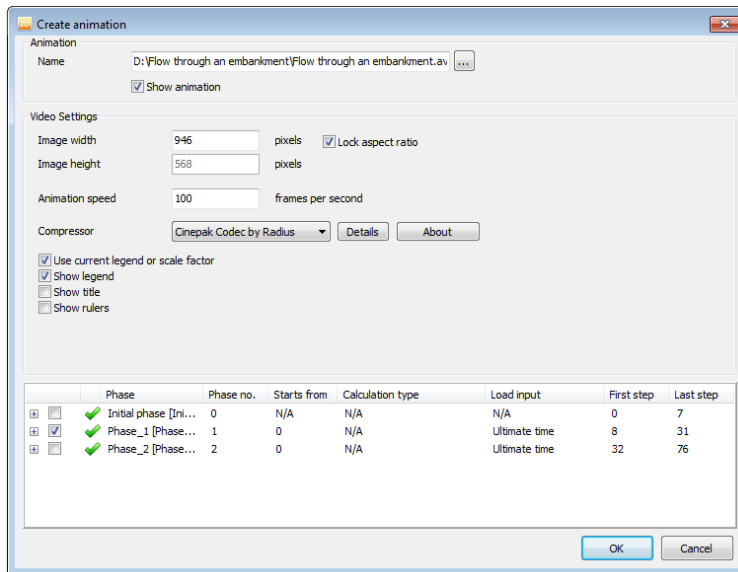

Figure 9.10 Create animation window
- Deselect the initial phase and Phase 2, such that only Phase 1 is included in the animations and rename the animation accordingly. The *Create animation* window is shown in Figure 9.10.